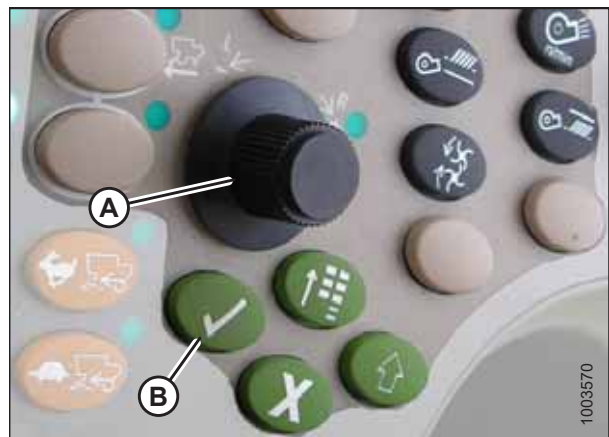

Figure 3.386: John Deere Combine Control Console
- Select HEADER in box (A) by scrolling down to the box using the scroll knob, and then pressing the check mark button (knob and button are shown in Figure 3.386, page 220).
- Scroll down to the lower right icon that resembles an arrow in a diamond (B) and press the check mark button to select it.